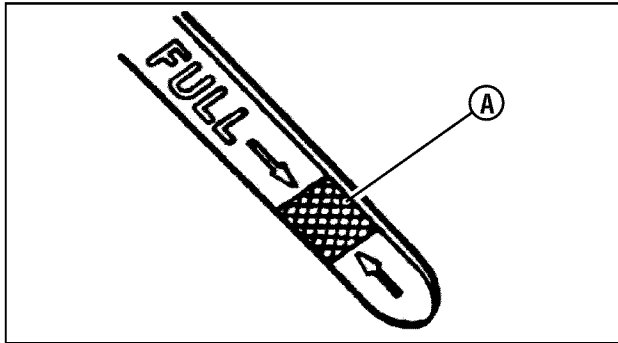

Figure 1: Engine oil 'Full' mark
3. Check engine oil and add oil as needed to bring level up to the FULL mark (A, Figure 1). Refer to the engine manual for oil specifications.